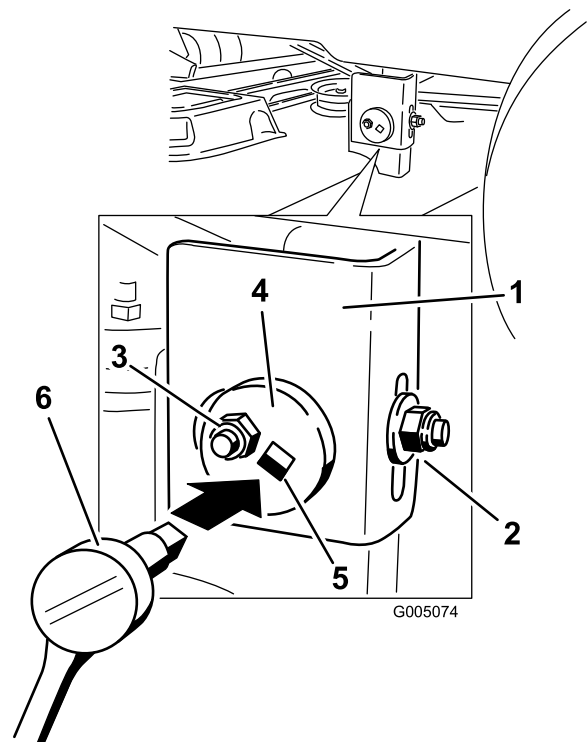

Figure 50
6. Move to the left side of the machine. Loosen, but do not remove, the rear locking nut on the hanger bracket (Figure 50).
7. Loosen the side locking nut on the hanger bracket just enough to allow the eccentric plate to be adjusted (Figure 50). Use a 3/8 inch drive extension on a socket wrench to manipulate the eccentric plate. Use the wrench to reposition the height of the mower deck and adjust to the desired height.
8. Stop the deck at the adjusted position and tighten the side locking nut on the hanger bracket to hold the new position (Figure 50). Tighten the rear locking nut on the hanger bracket.